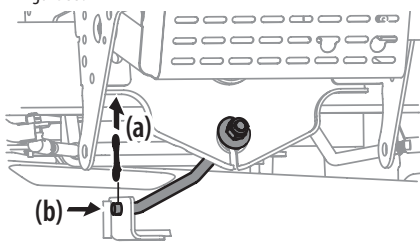

Figure 33
9. On 36", 42" and 46" decks, remove the bow-tie pin (a) securing the deck stabilizer rod (b) to the deck. Slide the deck lift rod from the mounting weldment on the deck as seen in Figure 33.